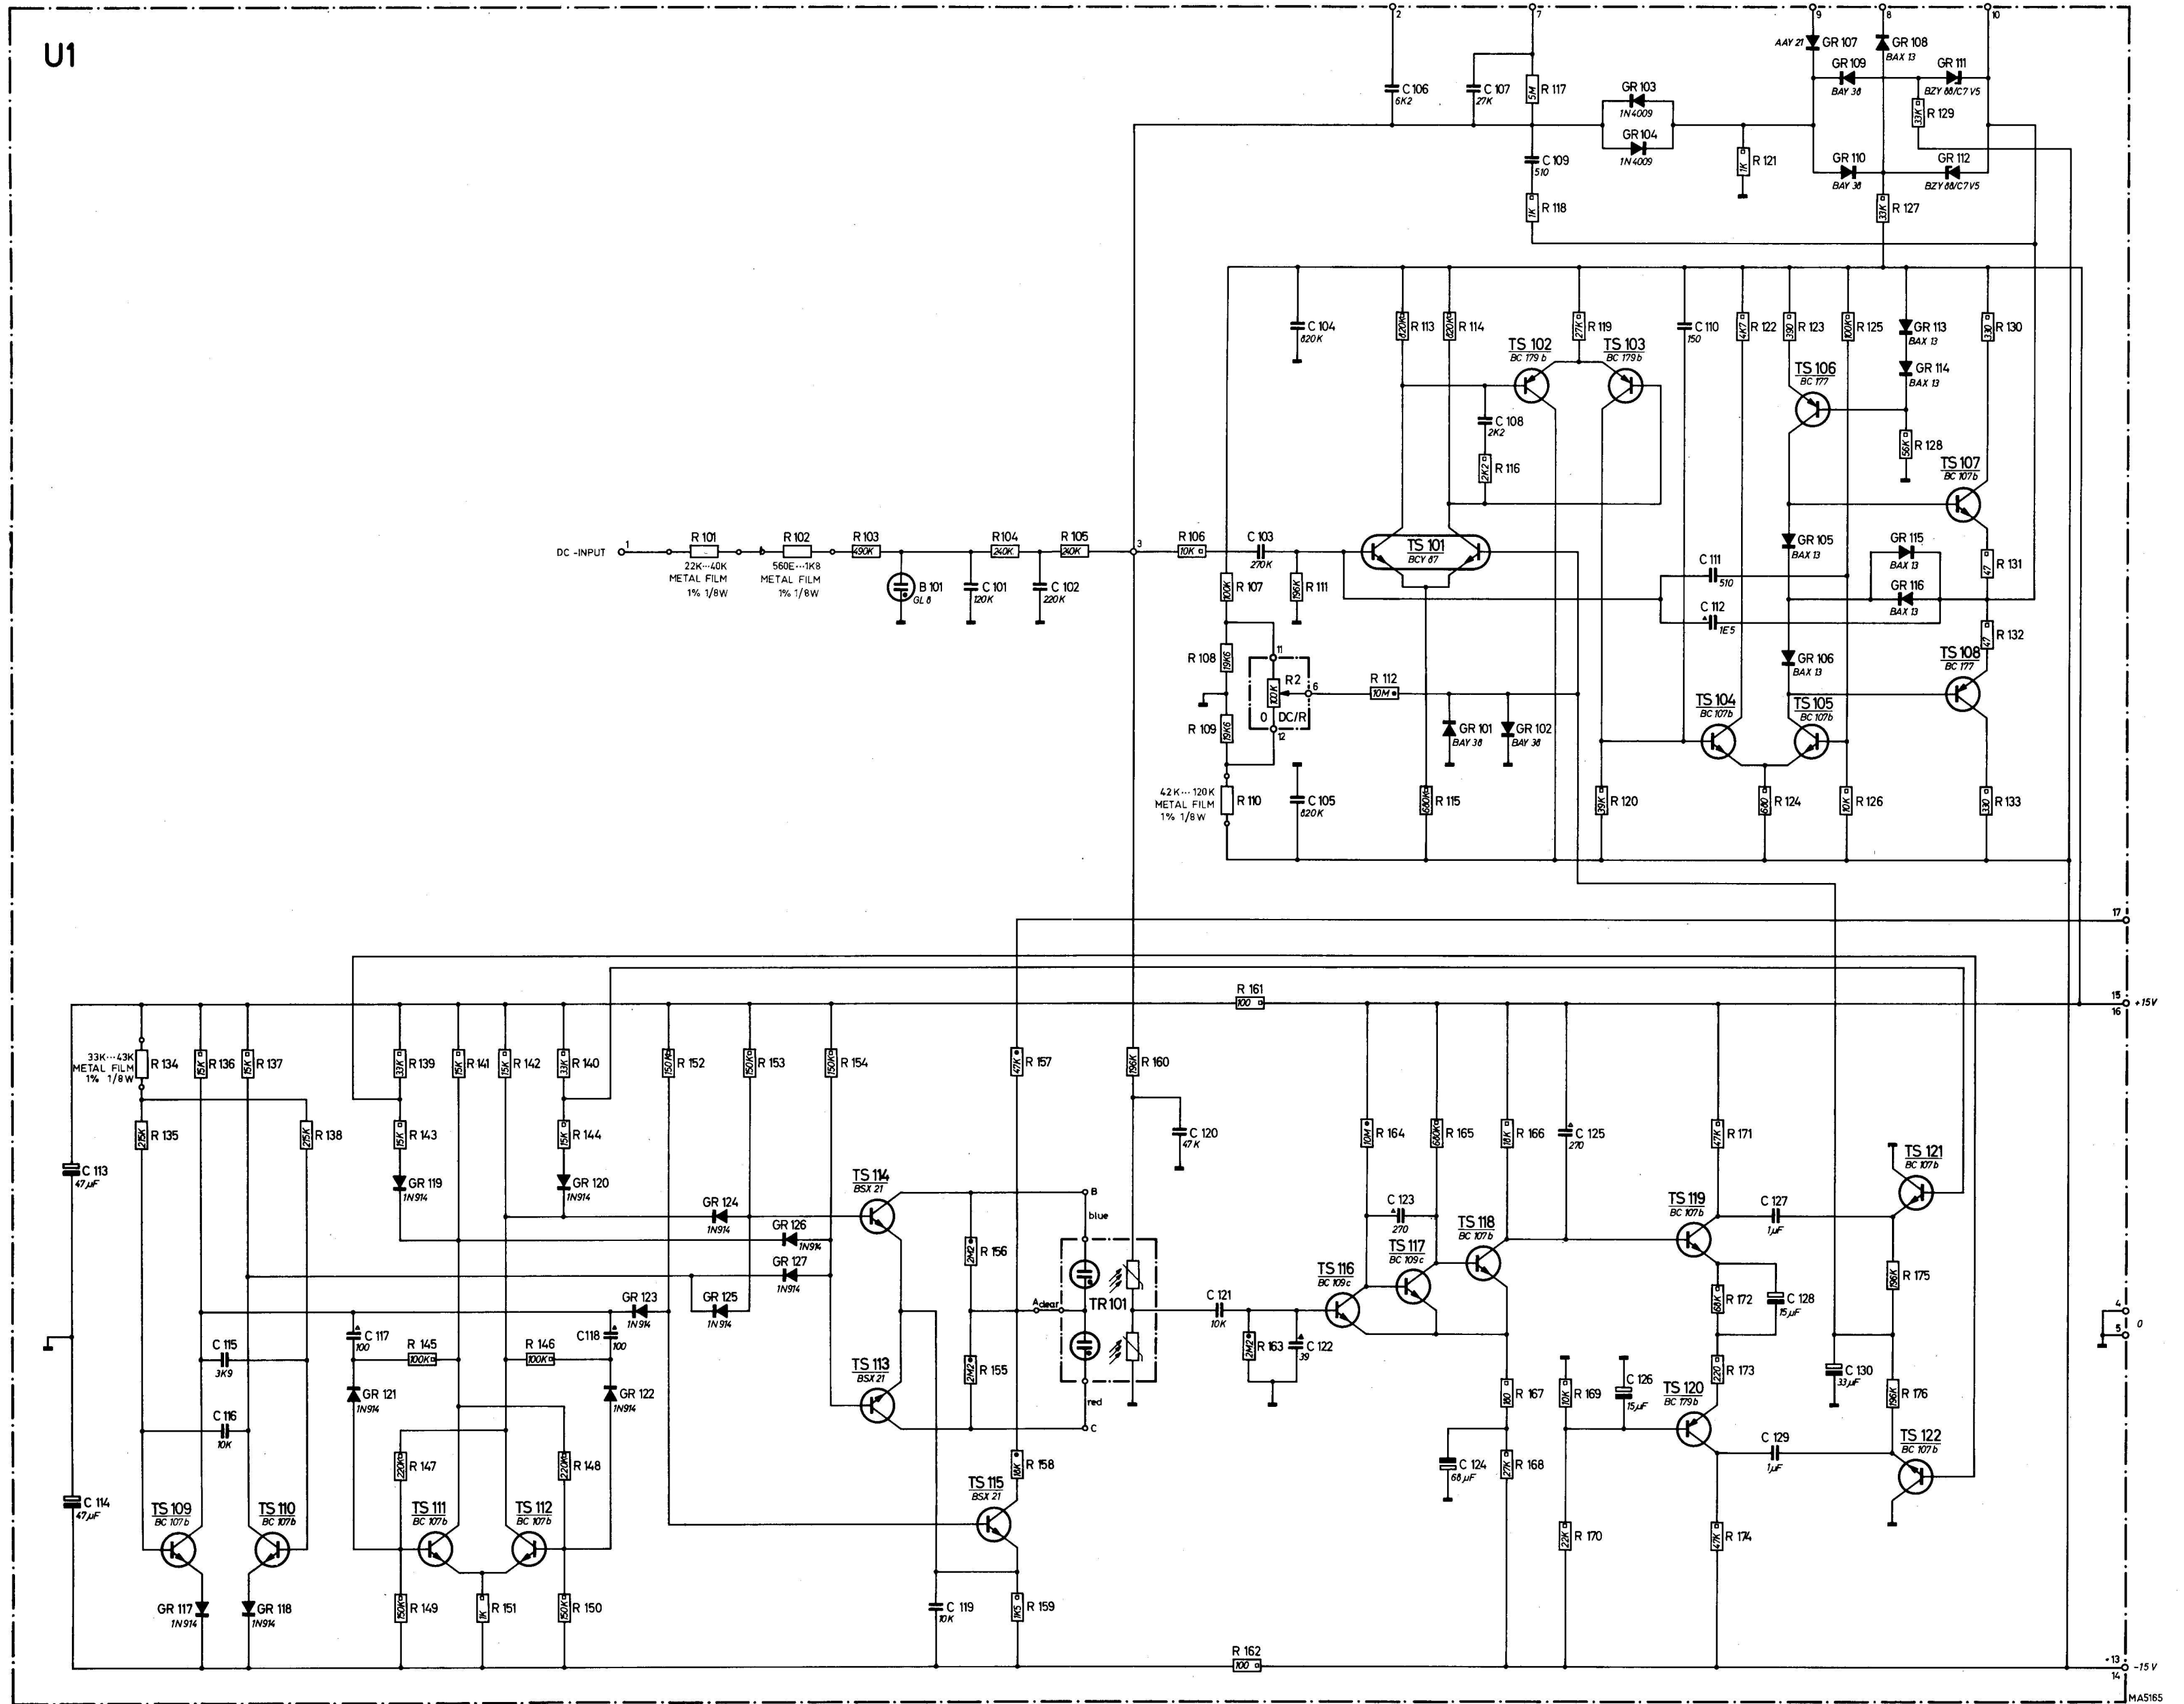

Fig. 19. Circuit diagram of the chopper-stabilised D.C. amplifier
A. CHOPPER-STABILISED D. C. AMPLIFIER (U1) Fig. 19